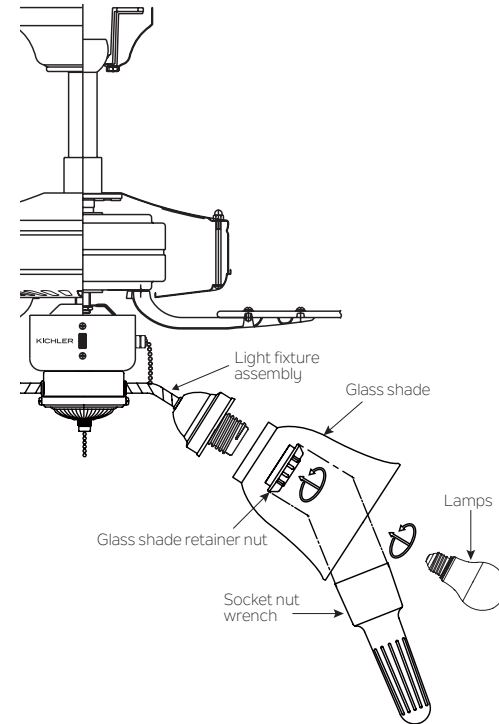

Fig. 3
1. Remove the glass shade retainer nut from each socket. Insert a glass shade (not include) into the glass holder, then replace and tighten the retainer nut until it is tighten firmly. Repeat this procedure for the remaining glass shades. (Fig. 3)
2. Install 4, 9 watt LED lamps (included). (Fig. 3)